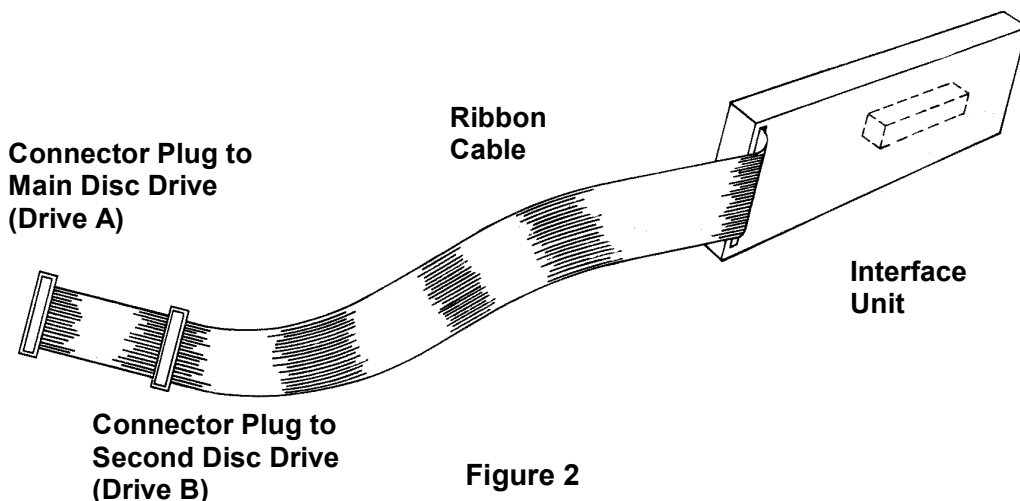

Figure 2
3. At the end of the ribbon cable from the Interface Unit, you will find a plug which is to be used for connecting to the main disc drive (Drive A), see Figure 2.
The plug which you will find slightly further back in the cable (see Figure 2) is to be used only for connecting to a second disc drive (Drive B); i.e. if you have purchased an additional Amstrad FD-1.